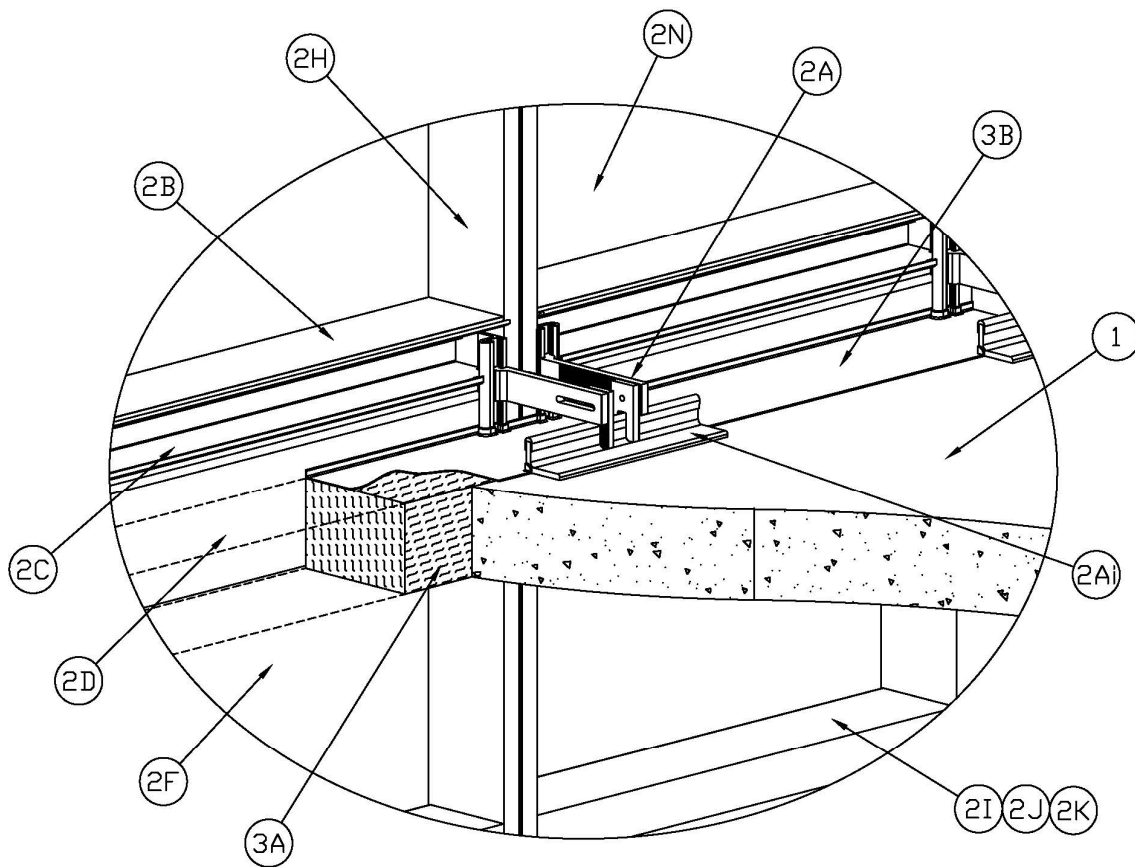

Figure 1 - Isometric with Interior Vertical Mullion Detail
i. **ANCHOR SUPPORT:** Install min. 2 in. × 3 in. × 3/8 in. (50 mm × 76 mm × 9.5 mm) steel angle, as shown in Figure 1, set above the concrete floor assembly (Item 1A), with the vertical leg of the angle flush with the edge of the floor. Secure the angle to the top-side of the concrete floor with embedded concrete anchors in accordance with the wall manufacturer's installation instructions.